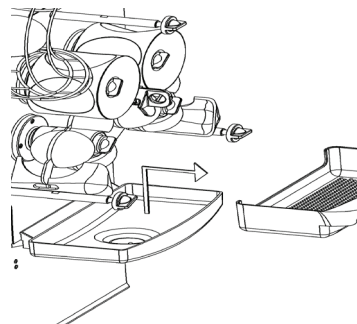

Figure 9
- 3- Remove the filter in front of your machine. **(Figure 9).**